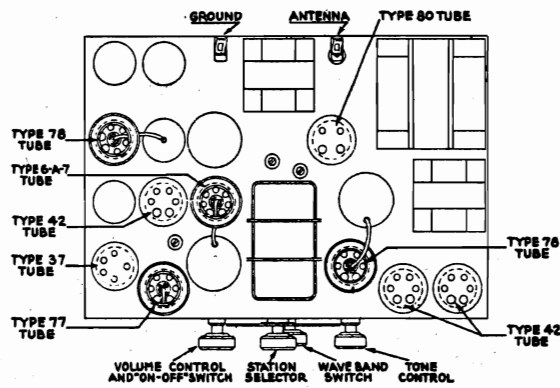

Fig. 1—Top View of Chassis
The intermediate frequency compensating condensers should be adjusted first. The intermediate frequency is 175 kilocycles. The location of these compensating condensers is: (a) 1st, I. F. PRIMARY—(24)—underneath the chassis. May be reached through hole in chassis sub-base to rear, left, of Tuning Condenser Assembly (6). See Figure 1. (b) 1st, I. F. SECONDARY—(25)—at rear of chassis, and accessible therefrom. Mounted near (65) and (66) electrolytic condensers. (c) 2nd, I. F. PRIMARY—(26)—at rear of chassis. Accessible from rear. Mounted next to (25). (d) 2nd, I. F. SECONDARY—(27)—underneath the chassis. Accessible through hole in sub-base, located between Type 42 (Driver) and Type 77 (1st, A. F.). See Figure 1.
Next, the "OSC.; H. F." (15), "DETECTOR" (11), and "ANT.; H. F." (6) compensating condensers should be adjusted in the order given. (15) and (11) are mounted upon the Tuning Condenser Assembly (6). (8) is located underneath the chassis, accessible through hole in sub-base at rear of Tuning Condenser Assembly (6)—between Tuning Condenser and Type 80 (Rectifier). See Figure 1. The signal generator is adjusted to a frequency of 1500 K. C. for (15), to 1400 K. C. for (11) and (8).